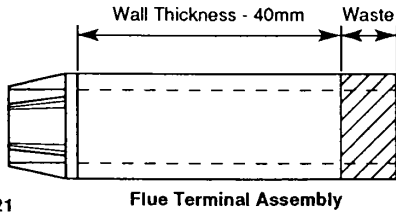

Fig. 21
2. Take the **Flue Terminal Assembly** and measure from the terminal end the wall thickness and subtract 40mm (Fig. 21). Cut the waste off the plain end.